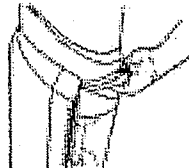

Figure 16d
7. Pull your finger towards your palm and the bin will effortlessly lock in place. (See Figure 16d.) You should hear an audible "click".